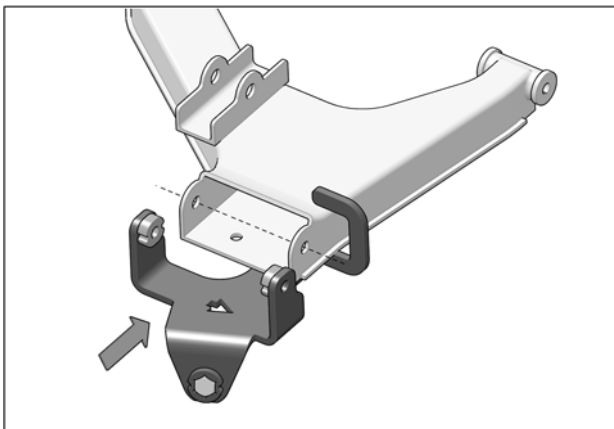

Fig. 7
7. Slide anchor bracket towards suspension arm and align anchor bracket bolt holes with suspension arm bolt holes. See Fig. 7